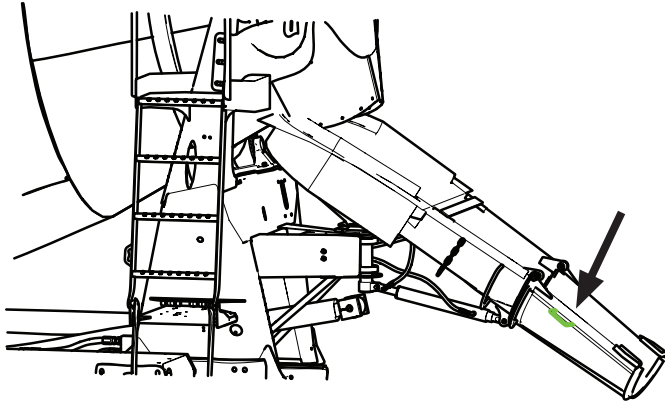

Figure 21
3. Slowly lower the chute into operation position (Figure 21).
1. Grip the fold-over chute using the correct hand-holds (Figure 21).